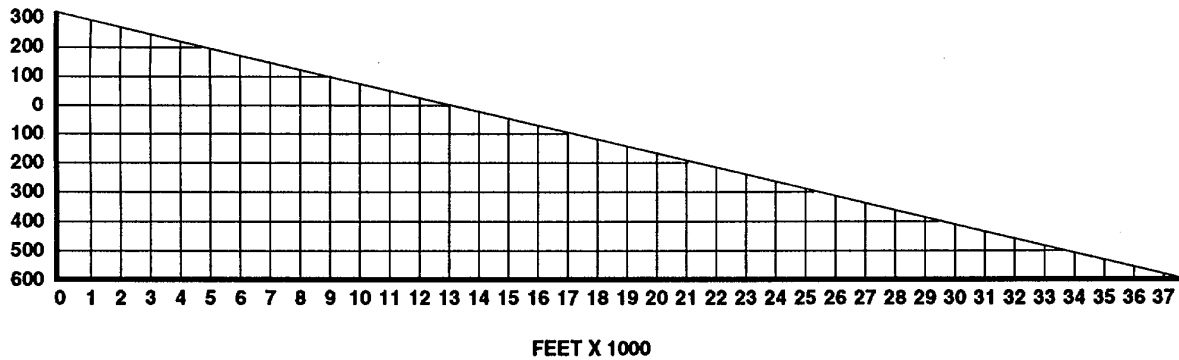

Figure 2-9. Pump spacing Triangle.
- a. Divide horizontal base of pump spacing triangle, Figure 2-9, into spaces on the same uniform scale used to divide the ground profile graph base. Mark off spaces along pump spacing triangle base to at least 39,000 feet.